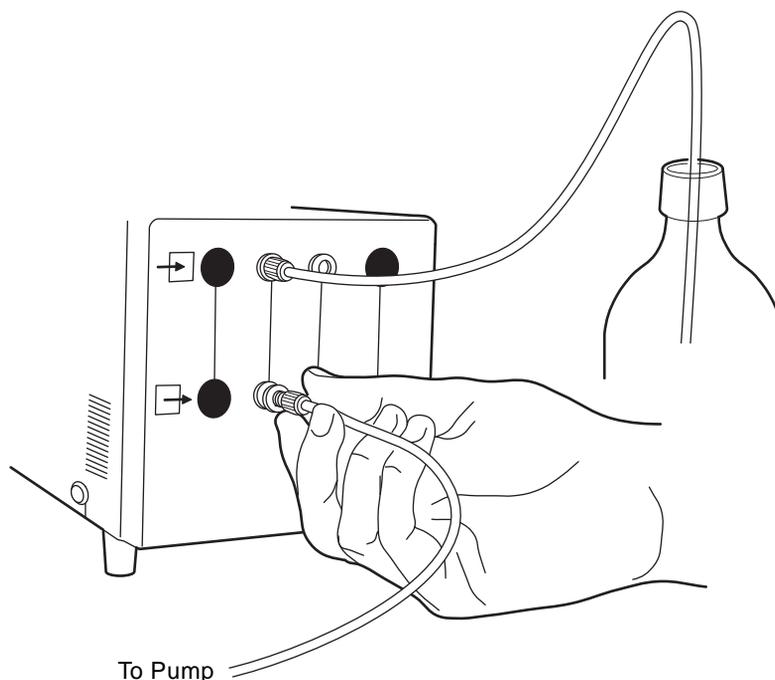

Figure 3-8 Connecting an Outlet Line to the In-Line Degasser AF
3. Connect this fitting to the channel outlet (on the front panel of the In-Line Degasser AF) that corresponds to the inlet line of the eluent (Figure 3-8).